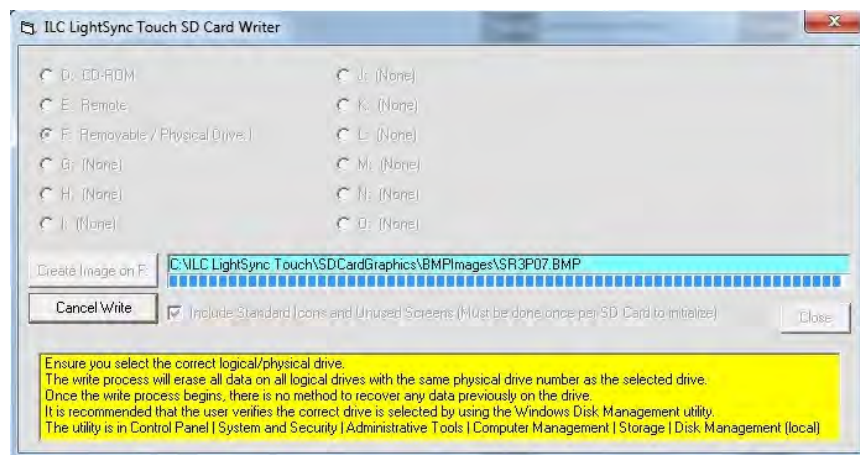

Figure 10 SD Card Writer Screen
5. Press the “Create Image on (Drive Letter):” to write to SD card. You will be prompted to write data to the drive. If you are sure this is the correct drive, select “Yes”. Data will be written to the drive, with the progress shown. See Figure 10